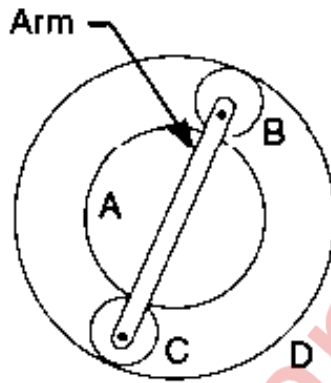

Fig.3
- VI a.** A cam is rotating at 600 rpm operate a reciprocating roller follower the stroke of (10) follower is 5cm. Ascent takes place by SHM and descent by UARM. Ascent takes place by 120° and descent during 90° of cam rotation. Dwell between ascent and descent 50 degree. Determine the maximum velocity and maximum acceleration. Plot the displacement, velocity and acceleration diagram also marks salient features.
- VI b.** An epi-cyclic train of gears is arranged as shown in Fig. 3. The number of teeth on (10) the gears A and D are 40 and 90 respectively. Determine number of revolutions of the arm: If, A makes one revolution clockwise and D makes half a revolution anticlockwise. 2. If, A makes one revolution clockwise and D is stationary.